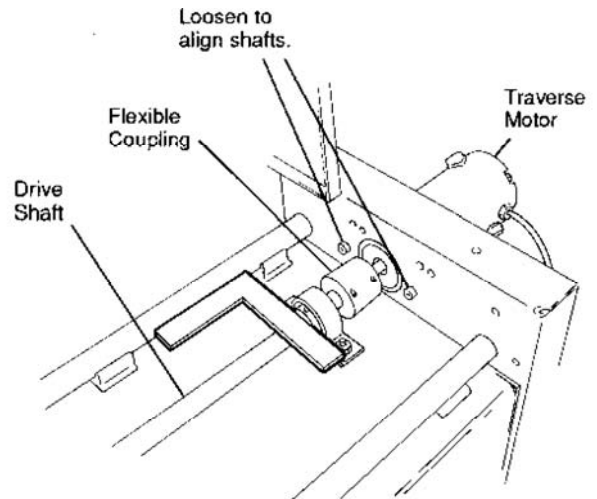

FIG. 38
6. Check that the bearing support block is at 90° to the drive shaft (within +/- 1/4 degree). Use a precision square held against the bearing shoulder and the rear rail. See FIG. 38.